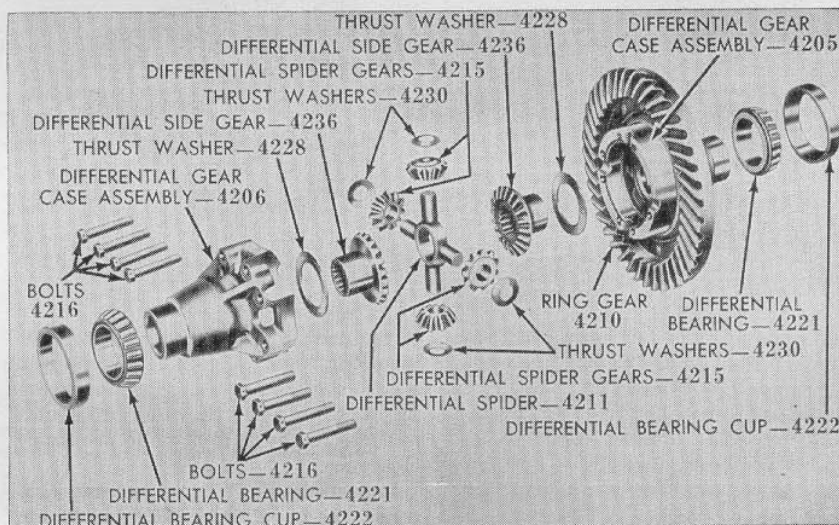

Fig. FO65—Exploded view of differential as used in models 2N-8N-9N. Bearing cups (4222) are mounted in axle housings.
**85. OVERHAUL.** Remove differential assembly as described in paragraph 84. Remove eight differential case bolts and separate the two case halves. See Fig. FO65. Remove spider, differential pinions and thrust washers. Remove differential side gears and thrust washers. Check differential bearings and renew if required. If bearing cups are to be renewed, both axle housings must be off the transmission and shafts removed from hous-